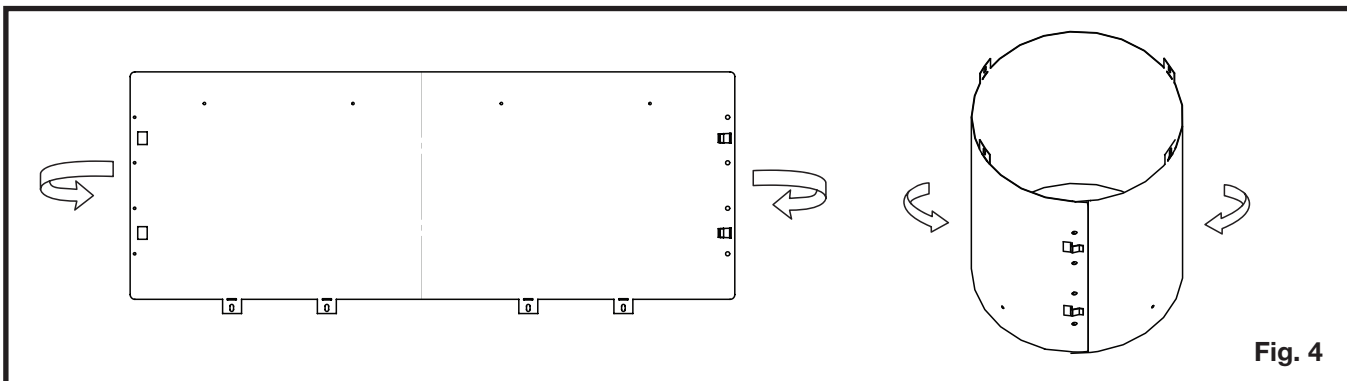

Fig. 4
- 1. Roll the vent sleeve as shown and ensure to clip the ends together (Figure 4).